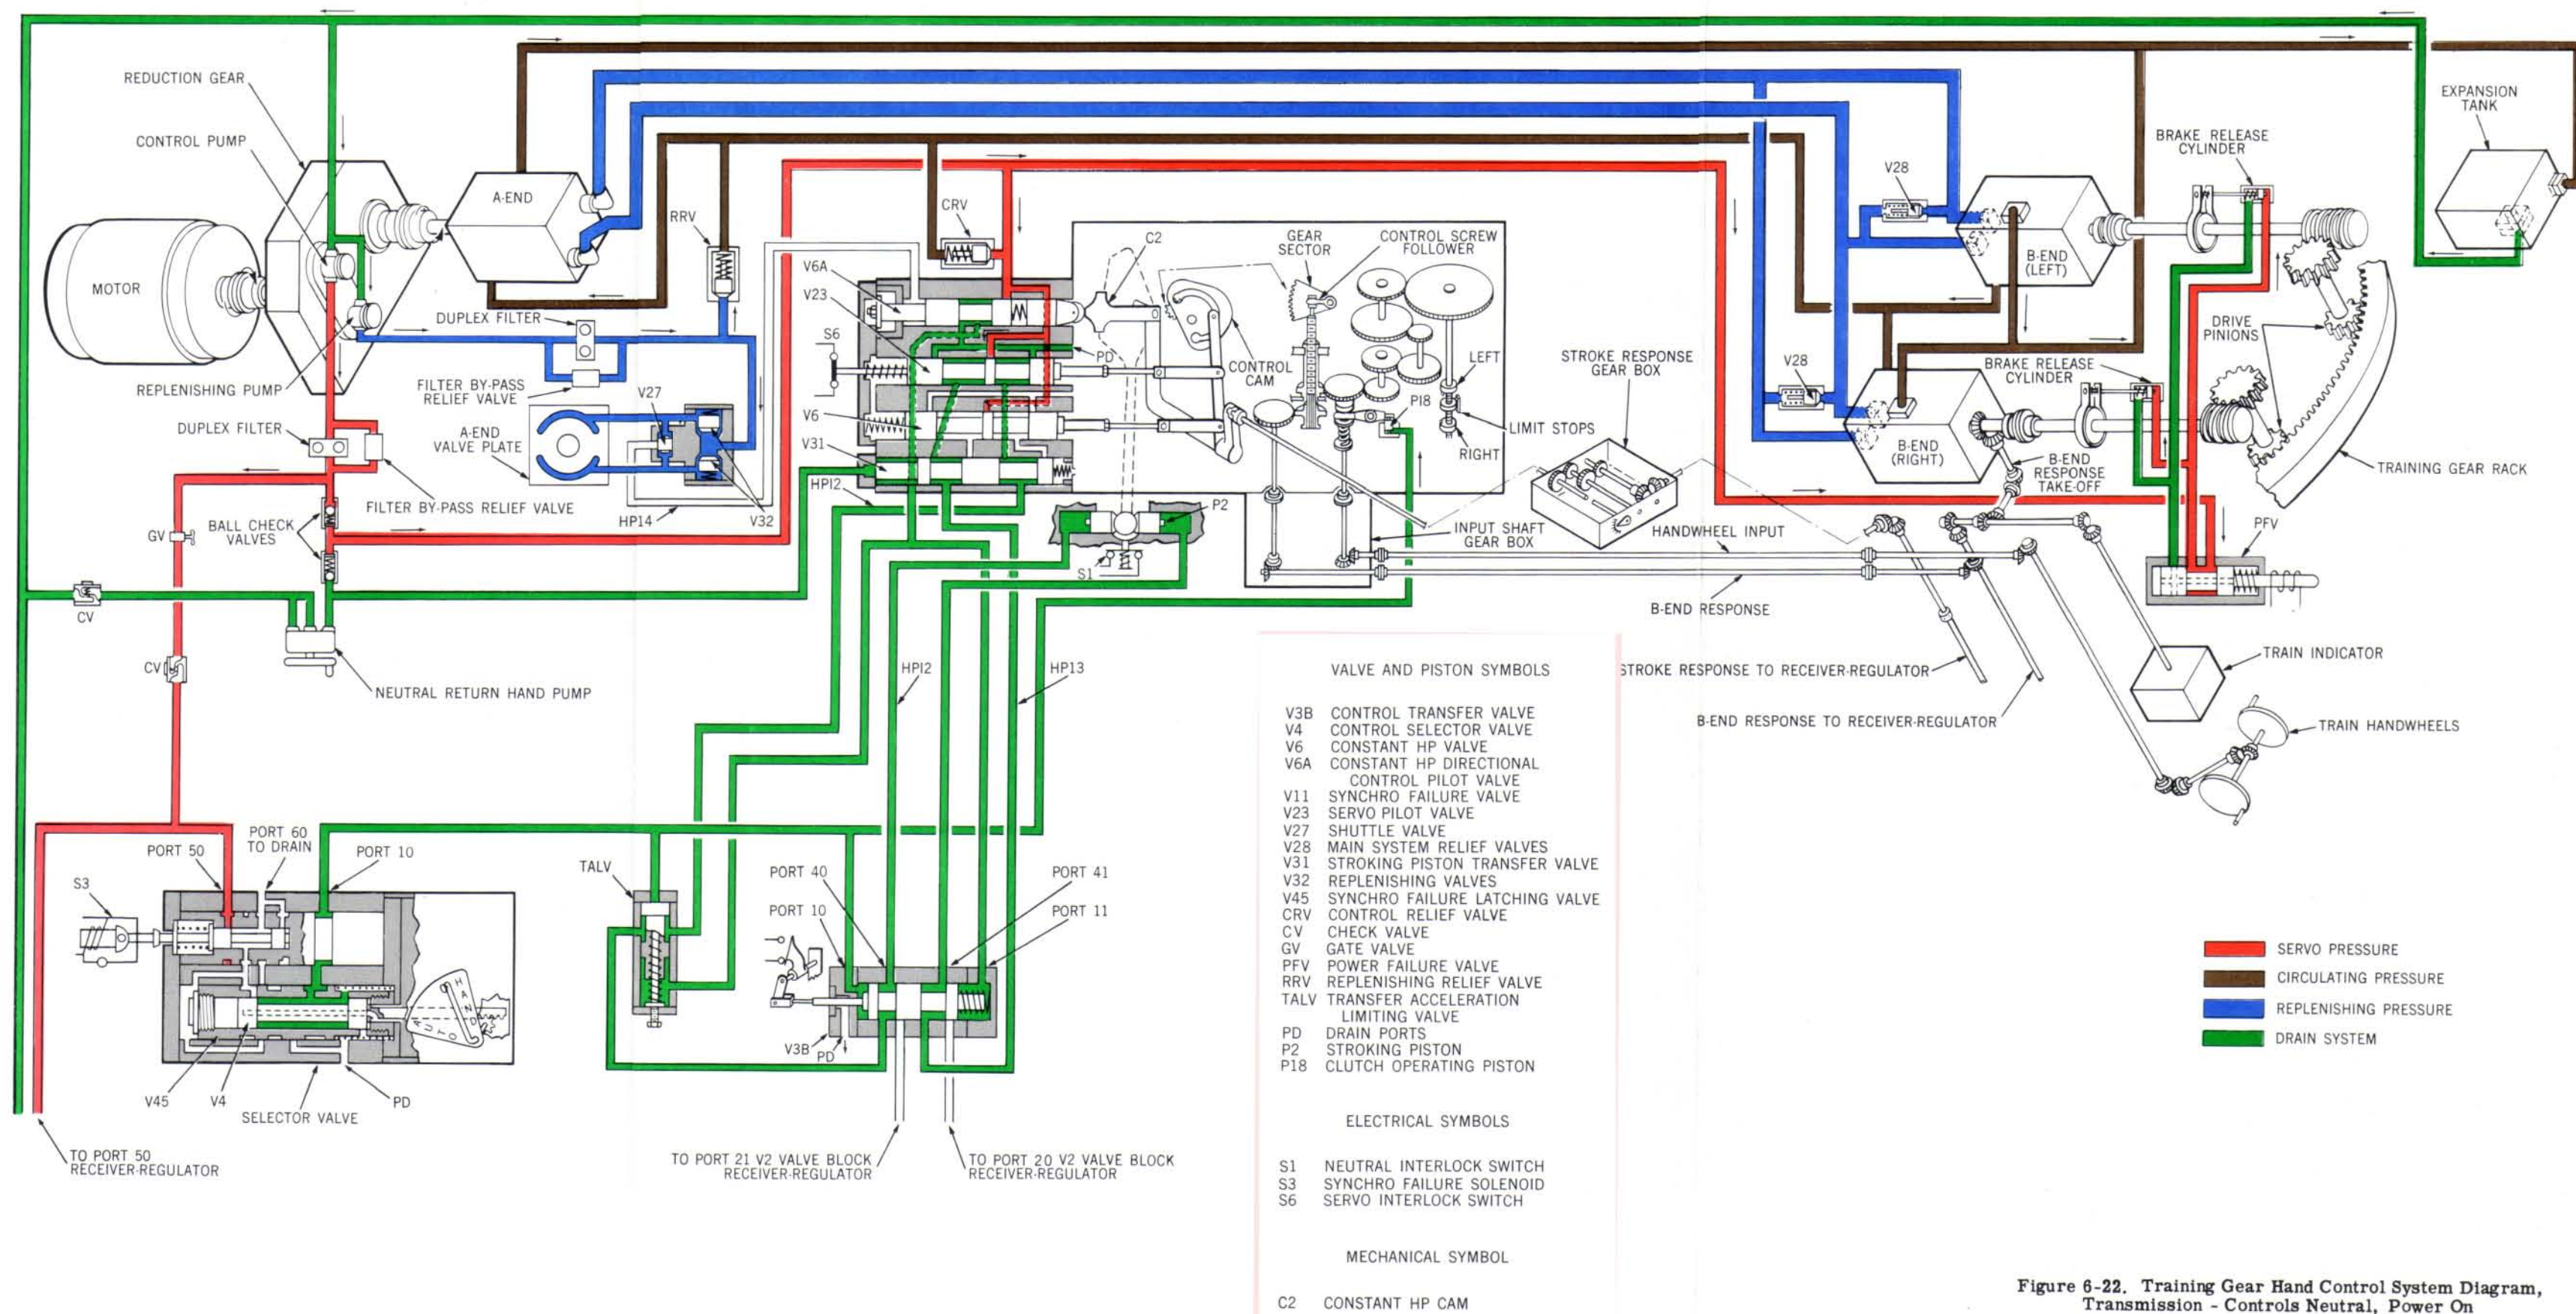
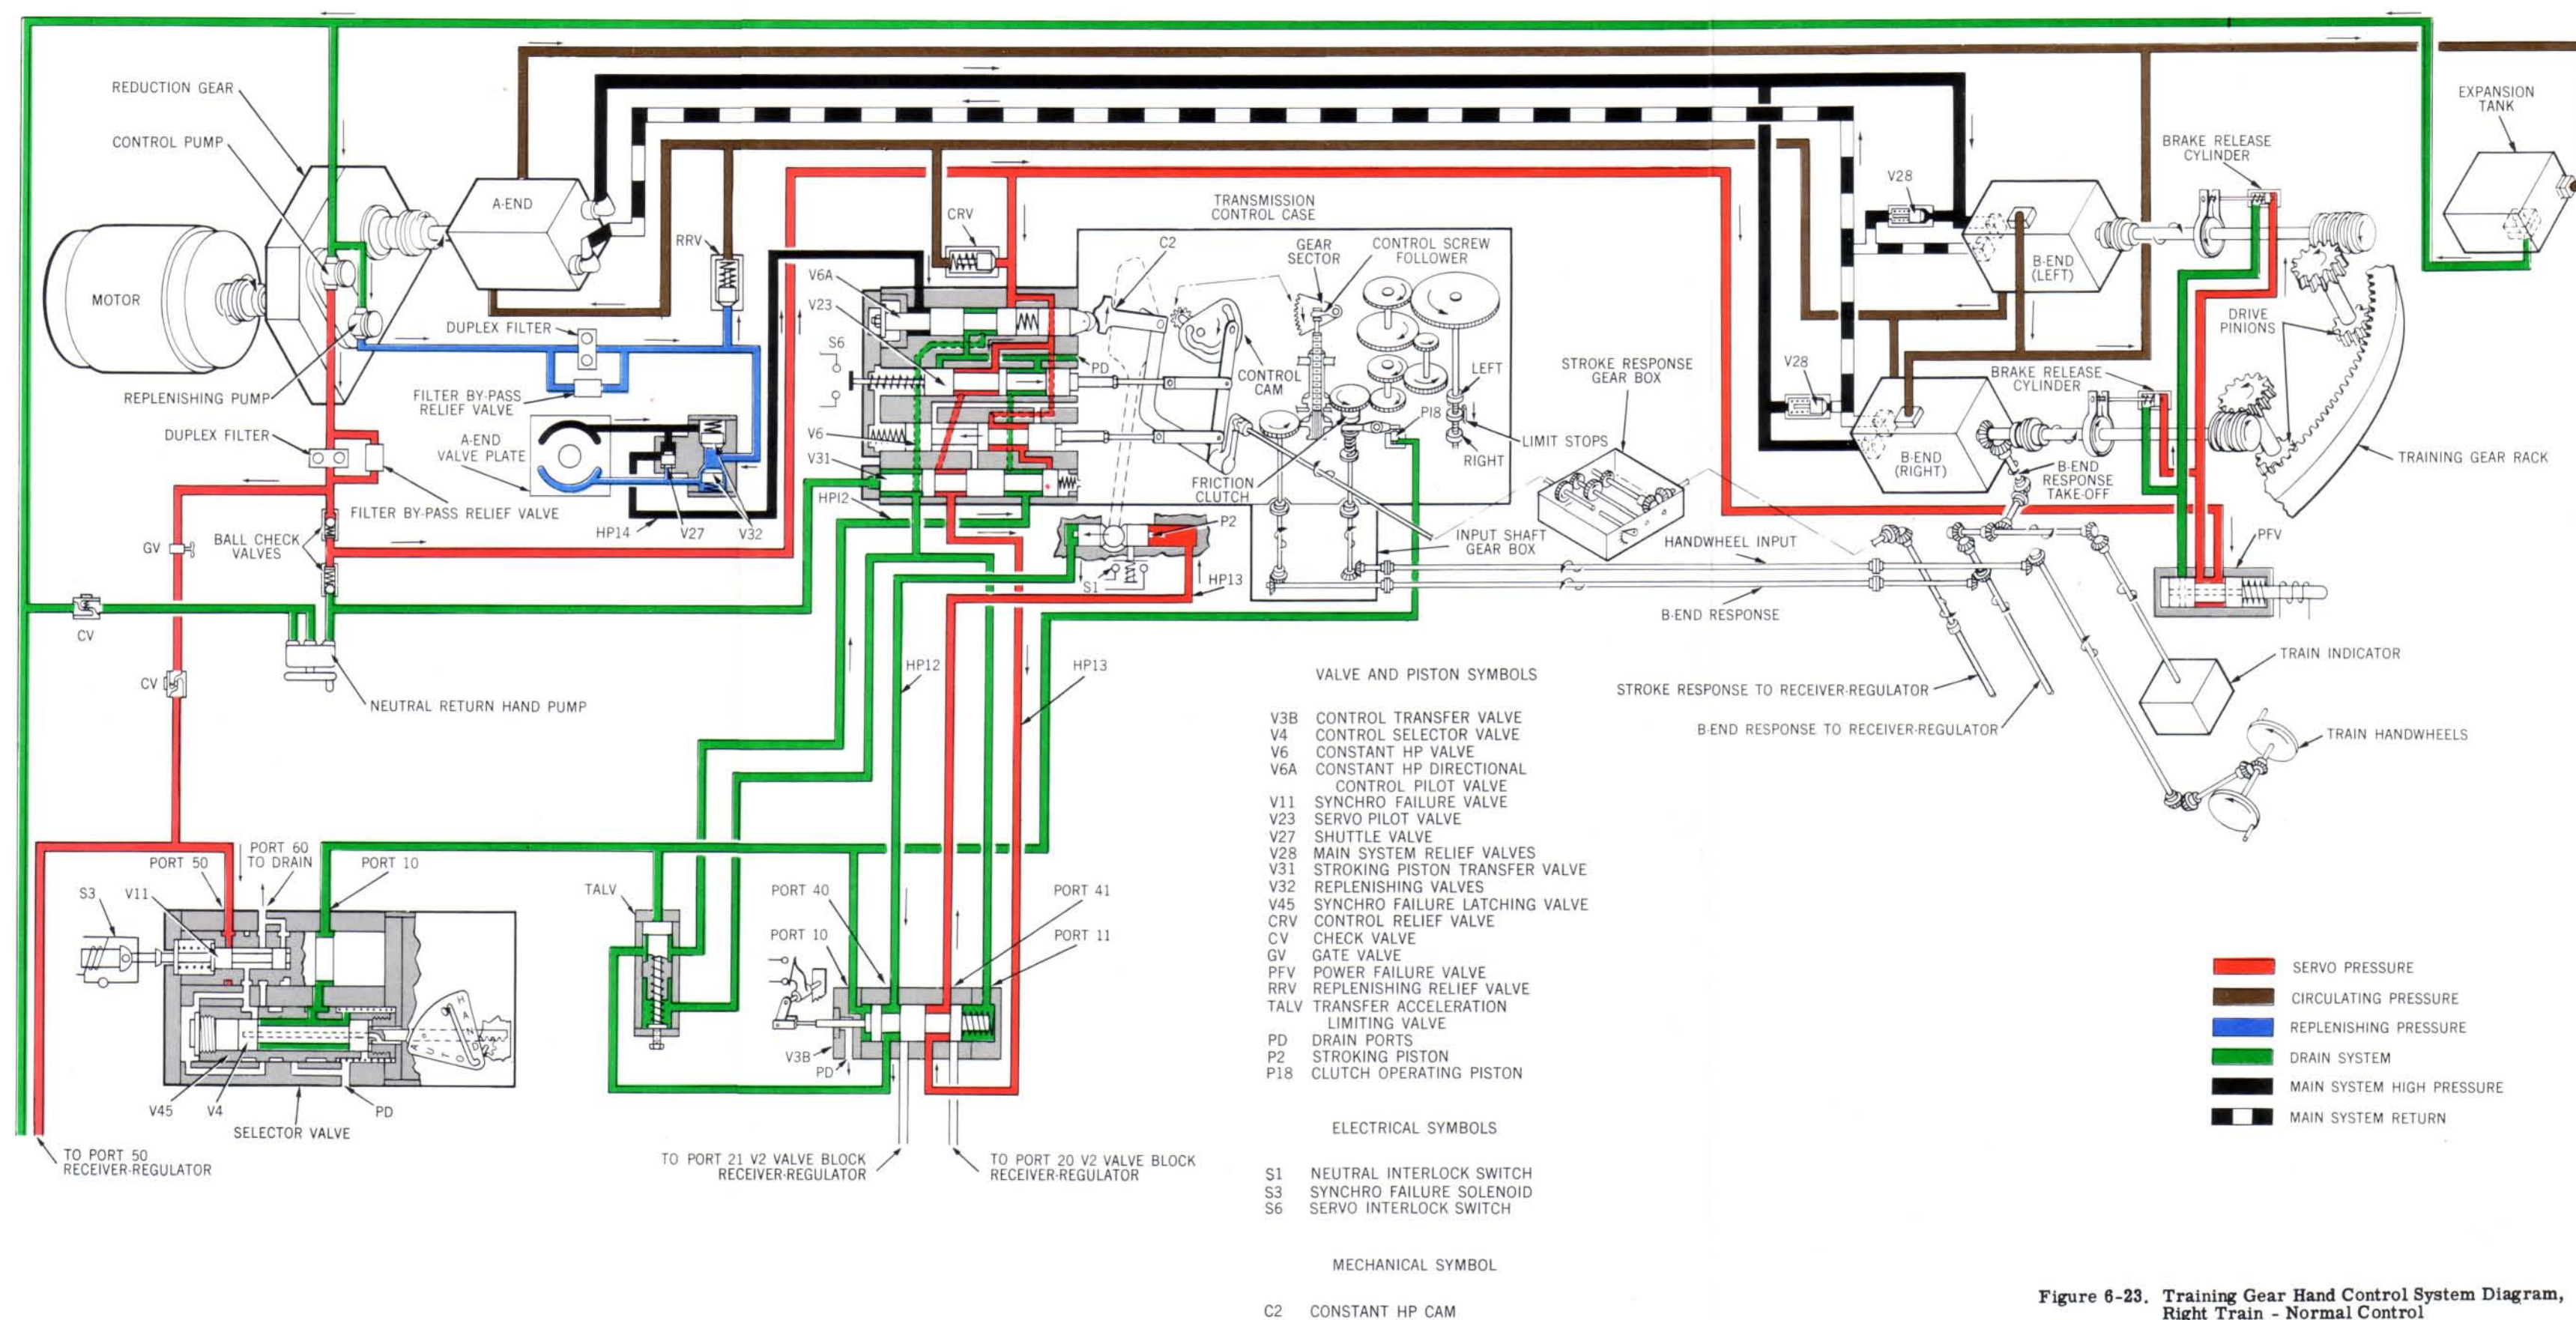
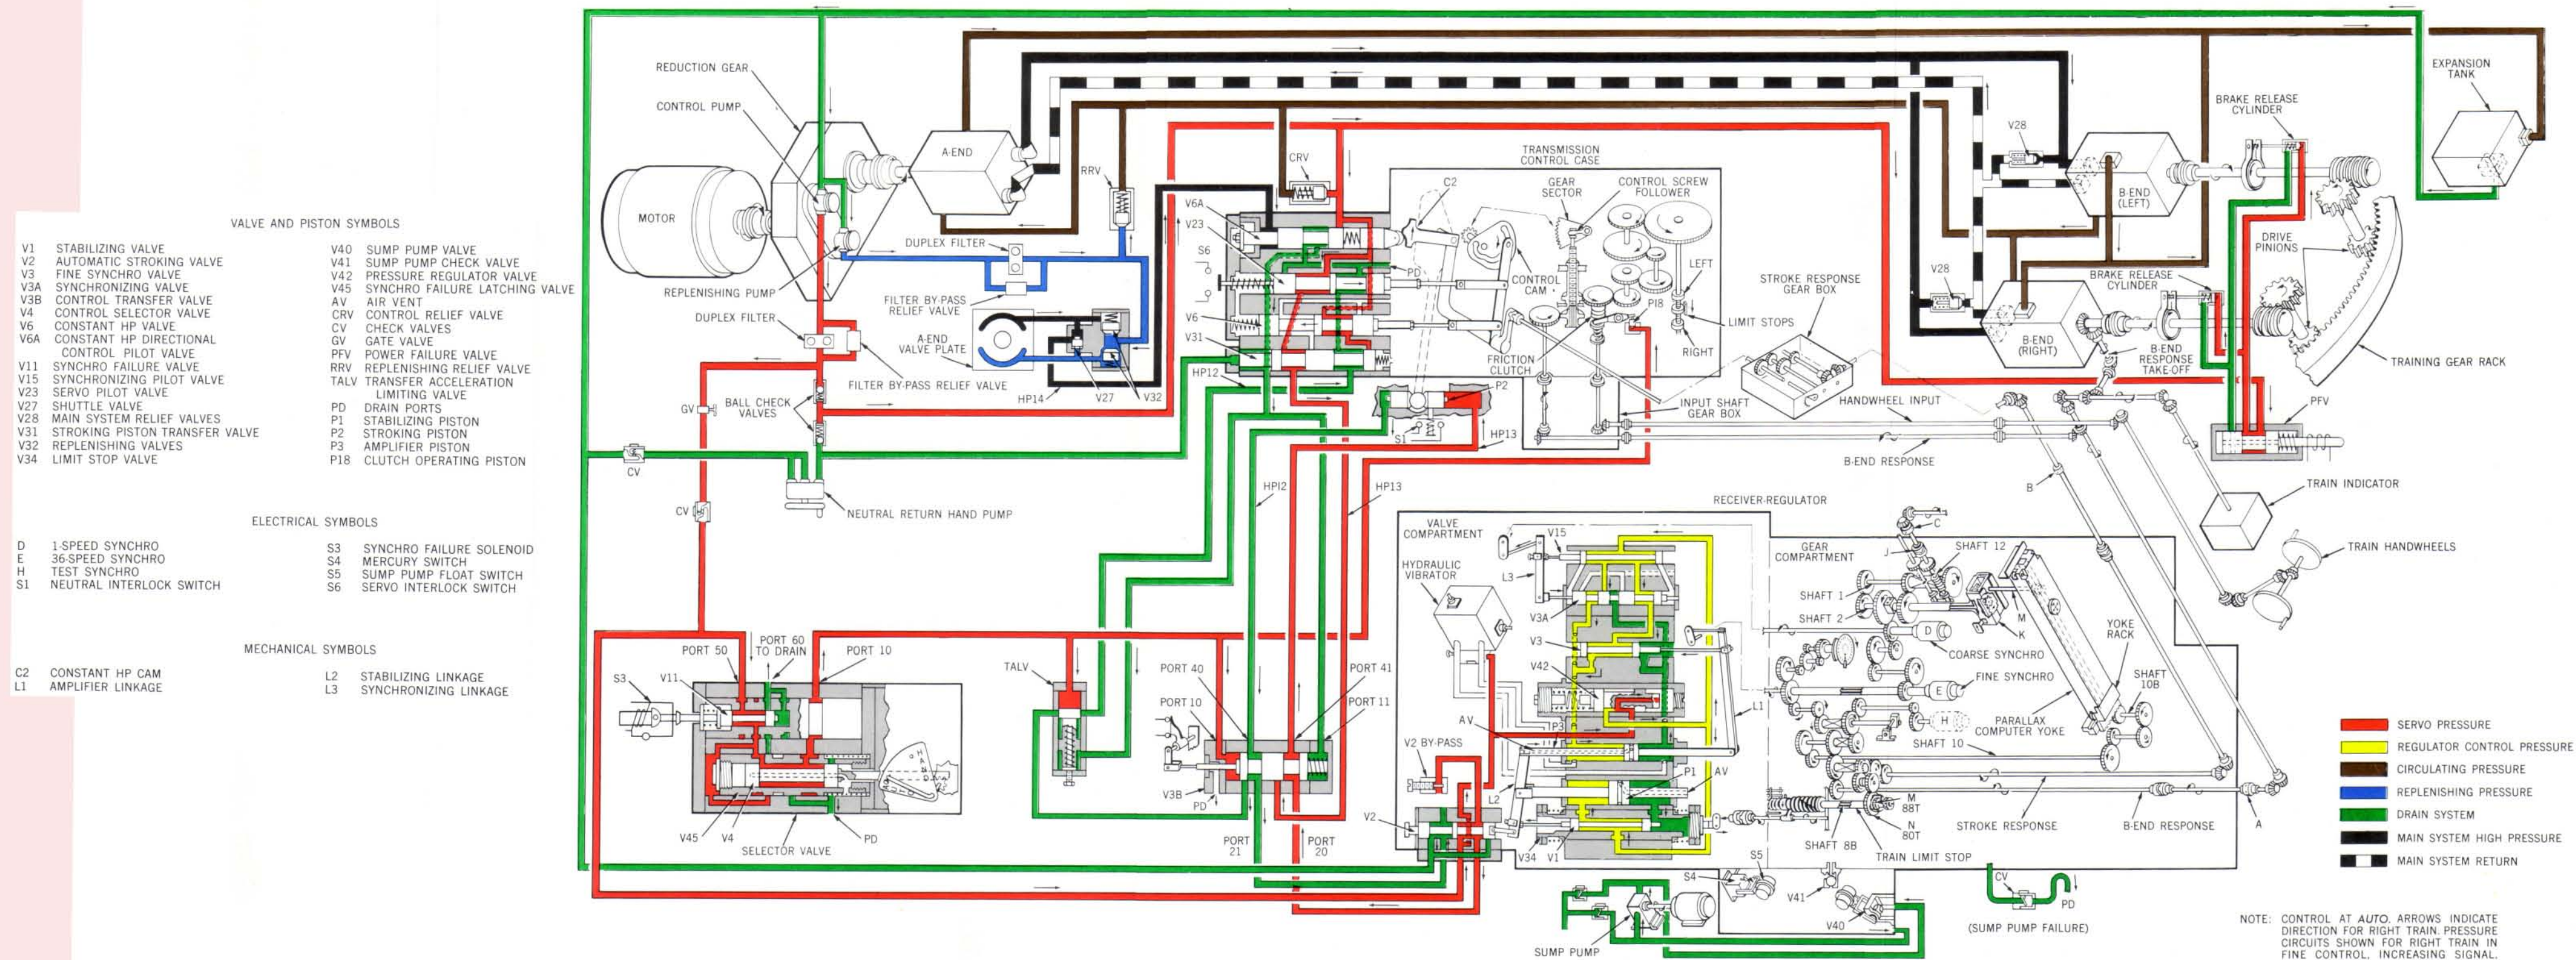

Figure 6-22. Training Gear Hand Control System Diagram, Transmission - Controls Neutral, Power On
Figure 6-23. Training Gear Hand Control System Diagram, Right Train - Normal Control
Figure 6-27. 16-inch Training Gear Mk 2 Mod 0 and Receiver-Regulator Mk 18 Mod 5 Hydraulic System, Schematic Diagram
The arrangement of the above electrical, hydraulic, and mechanical components of the receiver-regulator is shown schematically in figure 6-27.
The device consists of series of discs and lugs which are free to rotate on shaft 8B (fig. 6-27). Each disc contains a pin which extends about 3/32 inch on either side of the disc and is pressed through the disc about 9/16 inch from its center. The discs are assembled alternately on a common shaft with the lugs. The lugs engage the pins as the drive shaft input rotates. As the disc at the input end of the assembly is rotated, the pins on successive discs engage successive lugs, until after several revolutions of the first disc the entire assembly rotates as a unit. The last lug to be engaged operates a cam which rotates the limit stop drive shaft. The shaft then moves the limit stop valve V34 which is also the sleeve for the stabilizing valve V1.
Synchro failure valve V11. The synchro failure valve V11 is located within the control selector unit (fig. 6-27) together with the synchro failure solenoid S3. The synchro failure valve V11 transfers control automatically to the train operator's handwheels in the event of a failure of synchro power. Should synchro power fail, the synchro failure solenoid S3 is de-energized and a spring forces valve V11 to the right to cut off servo pressure to the automatic control elements. If the synchro power is restored, the control remains with the handwheels until the selector lever is moved to **HAND** and then back to **AUTO**.
Training gear control methods are substantially different in the two control selections. Hand servo-control operation of the power drive when the control selector lever is positioned at HAND, is described on page 6-21 of this chapter. The description of HAND control is illustrated in figures 6-22 to 6-26. Automatic servo-control operation, when the control selector lever is positioned at AUTO, is described in other paragraphs of this chapter. The description of AUTO control is illustrated by figure 6-27.
Controls neutral. With the training handwheels at rest, the following conditions exist (fig. 6-22).
Normal control training right. With the power drive in operation (controls neutral, as shown in figure 6-22), the turret is trained to the right by turning the handwheels down and away from the operator. The following actions occur (fig. 6-23):
4. Movement of the A-end tilting box toward neutral increases the pressure exerted by the constant horsepower cam on the plunger and spring to shift V6A to the left against main system pressure. When this occurs, the related mechanisms return to their normal position (fig. 6-23), and the servo pilot valve V23 takes control from V6A and V6.
Automatic control. When the turret is within three degrees of synchronization with turret train order, the fine (36-speed) synchro E (fig. 6-27) controls automatic operation of the receiver-regulator. With gun train order for right train, the following occurs: